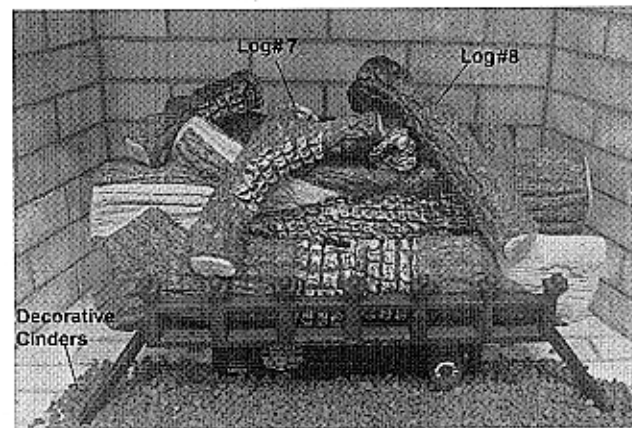

Figure 22-Installing Log #7, Log #8 and Add Decorative Cinders
6. Place log #7 and log #8 on the top of the log #2, log #3 and log #4 by inserting into holes on the back of the log #7 and log #8 into the pins on the top of the log #2 (see Figure 22).
7. Add decorative cinders around the grate base of heater, do not place any decorative cinders on logs or burner (see Figure 22).